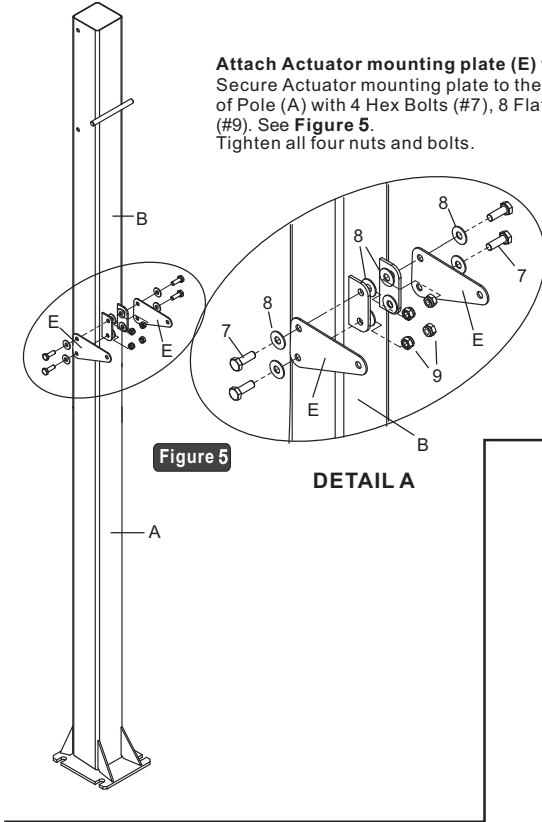

Figure 5
Secure Actuator mounting plate to the bracket welded on backside of Pole (A) with 4 Hex Bolts (#7), 8 Flat washers (#8), 4 Lock Nuts (#9). See **Figure 5**. Tighten all four nuts and bolts.